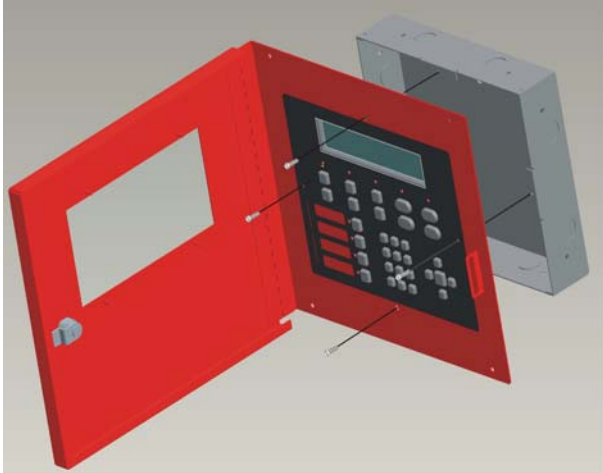

Figure 4 Attaching Door Assembly to Backbox
4. To attach the annunciator/door assembly to the backbox as shown in Figure 4, use the supplied screws.
6. Attach the annunciator door assembly to the backbox, using the screws provided (see Figure 4).